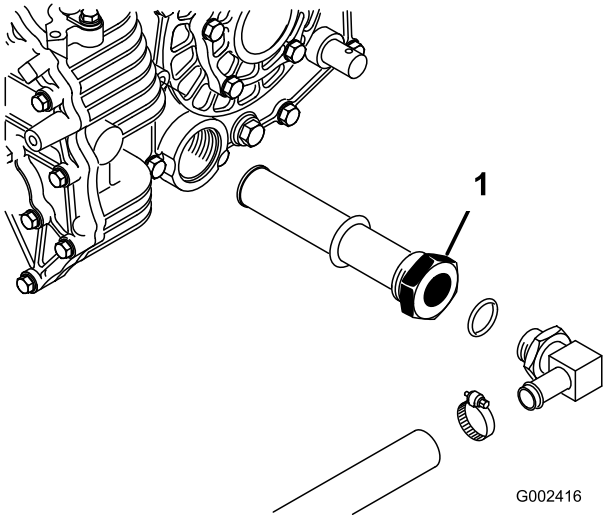

Figure 71
5. Note the orientation of the hydraulic hose and 90° fitting connected to the strainer on the side of the reservoir (Figure 71).